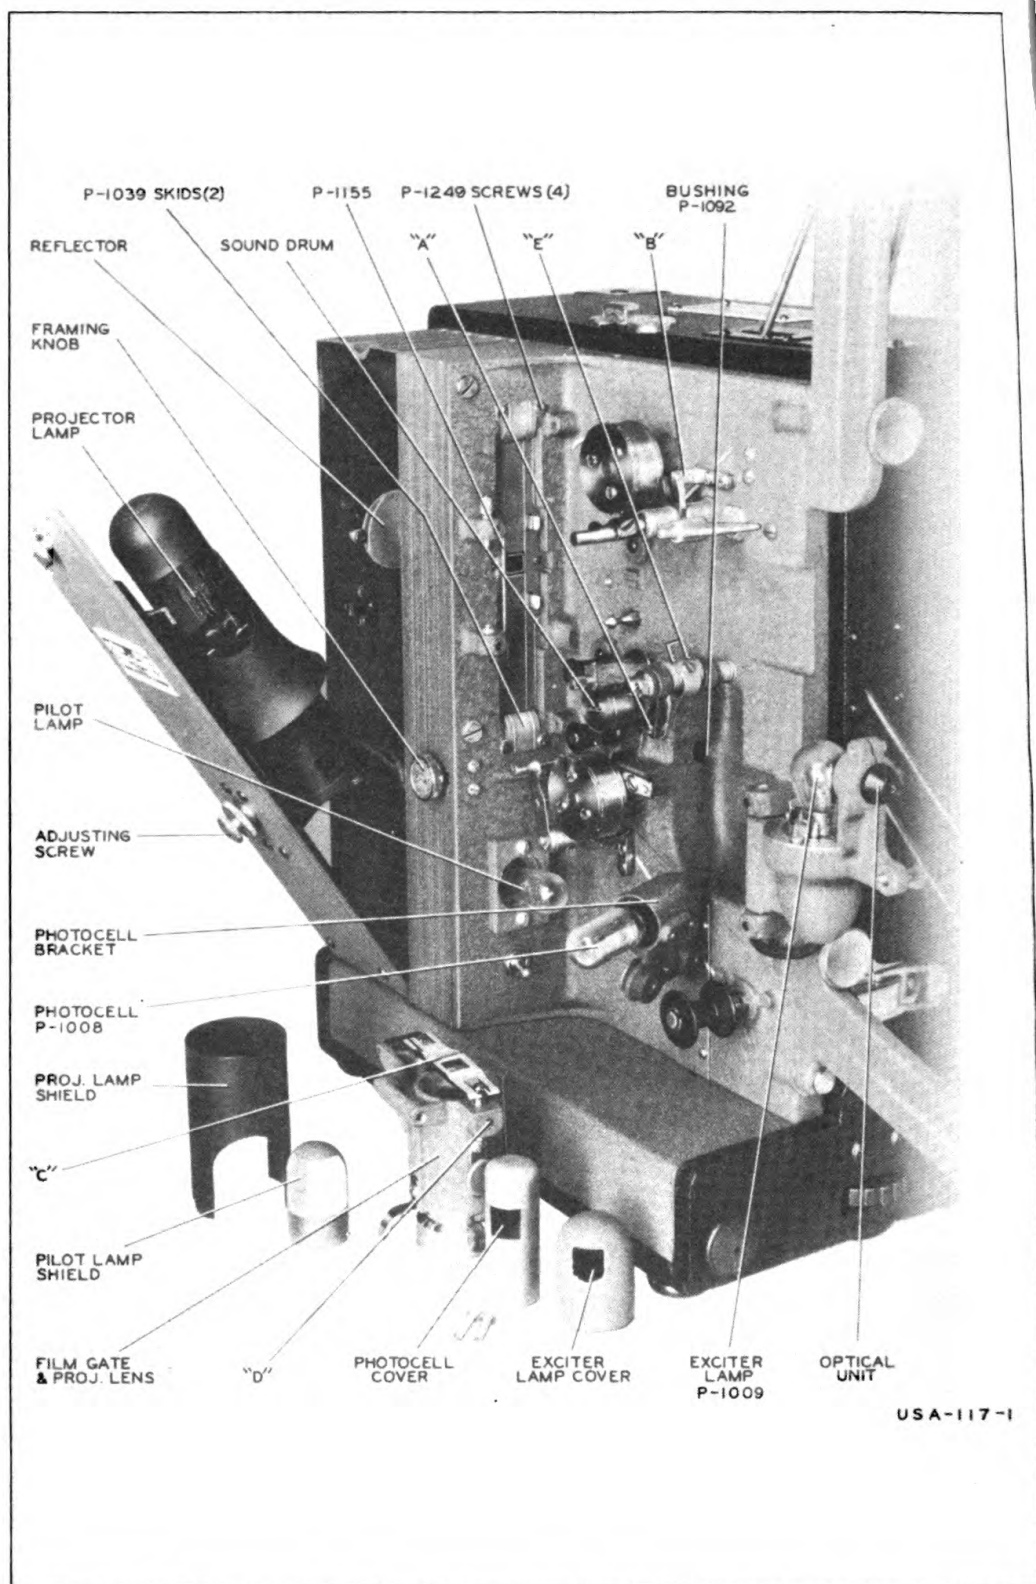

Figure 9—Projector—Operating Side—Partially Disassembled
(1) **Exciter Lamp**—The exciter lamp is of the pre-focused type and when seated properly in its socket no further adjustment is necessary. To replace the exciter lamp: (See Figure 9.)
(2) **Projection Lamp**—The projection lamp is mounted inside a properly ventilated housing. Forced cooling is provided by means of a blower mounted on the projector motor shaft. Never open the lamp housing while the lamp is burning as damage to the lamp may result. To replace the lamp: (See Figure 9.)
(b) Remove the two round-head machine screws and washers that hold the photocell bracket in place. (See Figure 9.)
(4) Pilot Lamp—The pilot lamp has a candelabra screw type base and may be replaced as follows: (See Figure 9.)